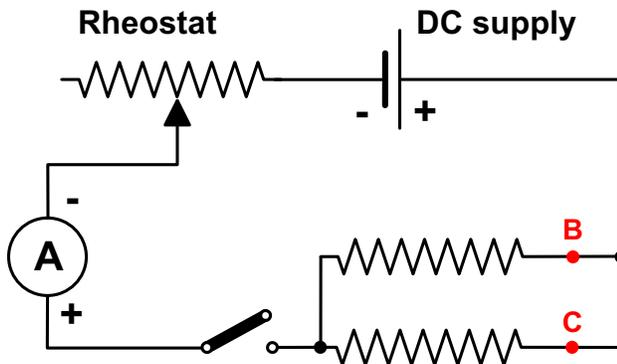

Figure 5
- A. Connect in series the DC supply, the rheostat, the ammeter, the switch, and the two wire wound resistors in parallel as shown in Fig. 5. Measure the current when the ammeter is placed, successively, at the shown position and at the positions marked B and C.
Question 5: How do the meter readings at B and C compare with that at the original position shown in Fig. 5? What conclusion can you draw?